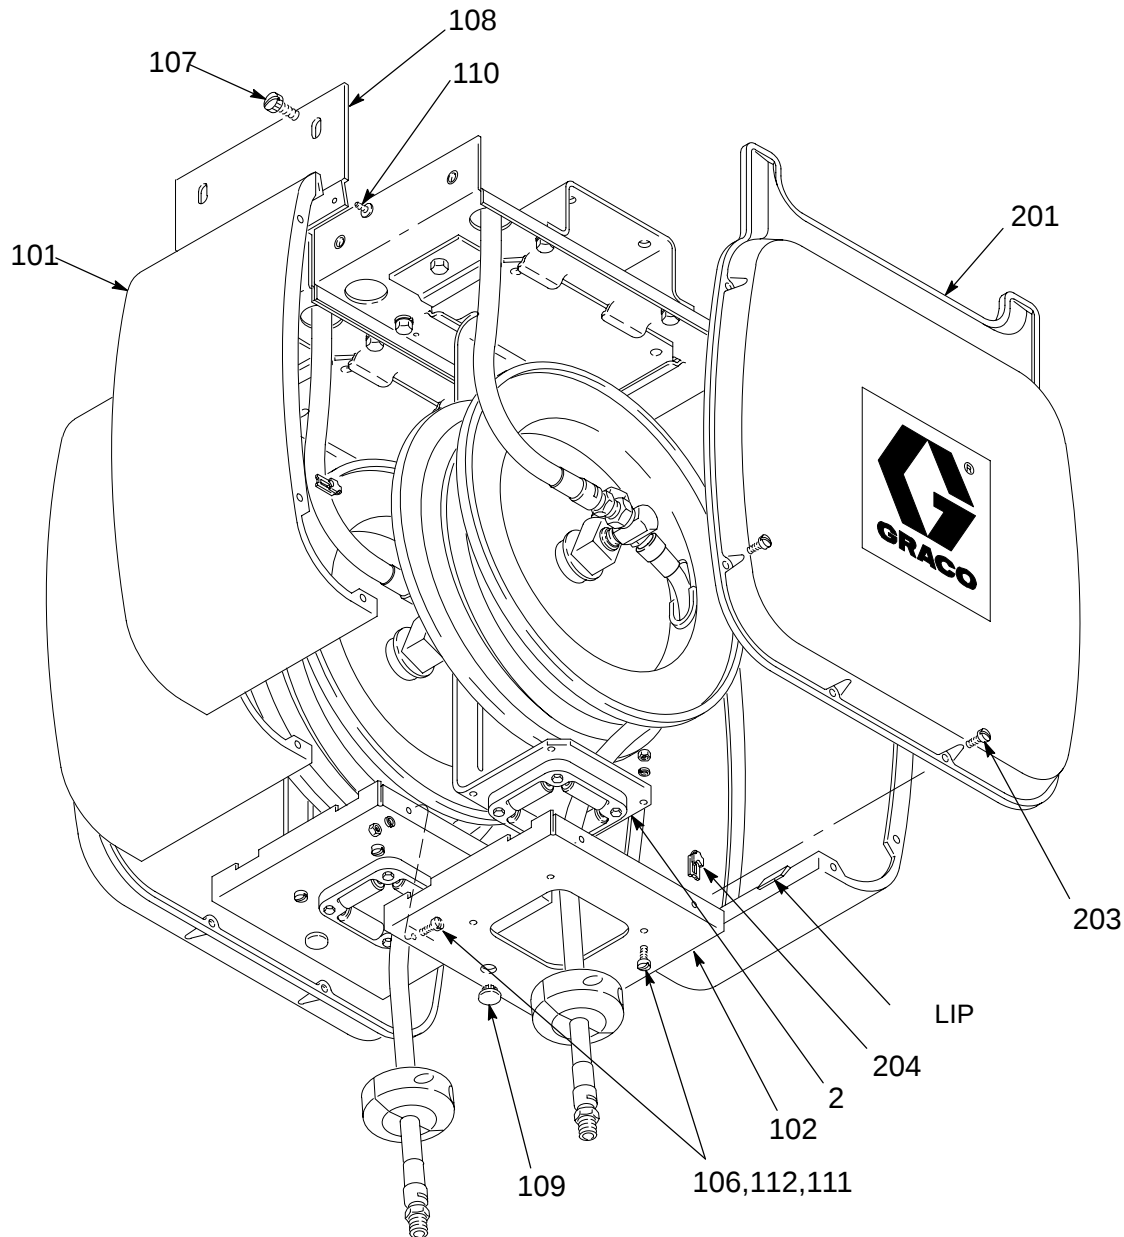

Fig. 5
(See Fig. 5)
1. Secure the hose reel cap (102) to the hose reel support (2) using the screws, lockwashers and nuts as shown. See Fig. 5 for correct positioning. Push the button plug (109) into the hole in the cap.
3. Noting the correct position, secure the black trim plate (108) to the side panel (101) using the machine screws (110) as shown.
4. Hook the lips of the side enclosures onto the cap and secure the enclosures with the thumbscrews (107).
5. Attach the end enclosures (201) using screws (203) and spring nuts (204) as shown.